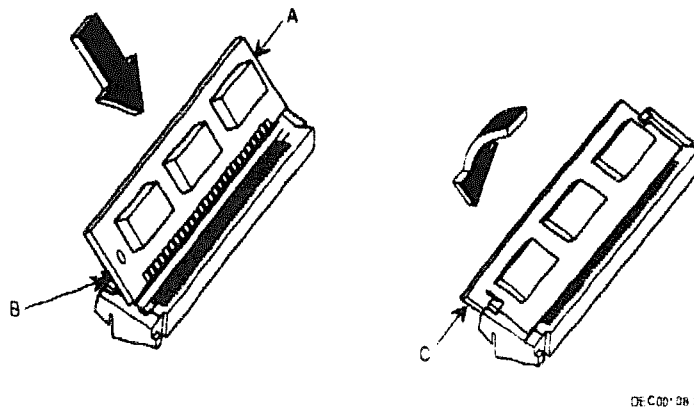

Figure 3-27 - Installing SIMMs
The DECpc 333sxLP PC is supplied with 2 MB of DRAM (minimum standard configuration). You can increase the standard amount of DRAM (up to 16 MB) using the eight SIMM sockets located on the main board (see Table 3-2 and Figure 3-27). The eight SIMM sockets are arranged in four banks (bank 0 to bank 3), with each bank having two SIMM sockets. Each bank can be filled with either 1 MB or 4 MB (x9) SIMMs.
3. Looking from the front of the computer, carefully position each SIMM with the notch facing you. Insert its bottom edge into the socket slot beginning with the left-most vacant socket (see Figure 3-27).
4. When each SIMM seats correctly, hold the ends (Figure 3-27, A) and gently push the top edge toward the slot retaining clips (Figure 3-27, B) until it snaps into place (Figure 3-27, C).